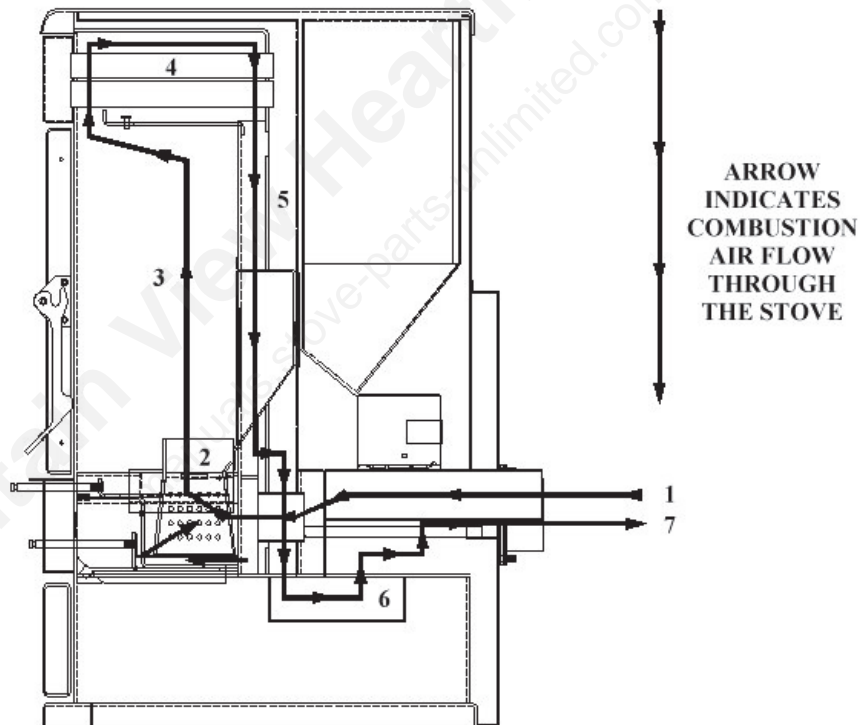

Figure 20
*Location:* The hot air plenum is located behind the firebox and is part of the Burn system of the stove. See Figure 20 on Page 95.
*Location:* The Air Intake Tube is located on the rear of all stoves. The 2” diameter tube has a butterfly damper in the tube to control the Combustion Air. See Figure 20 on Page 95.